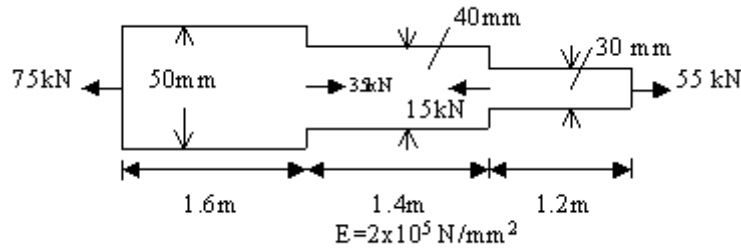

Figure 1:
- Find the total deformation and stresses in the steel bar shown in Figure1